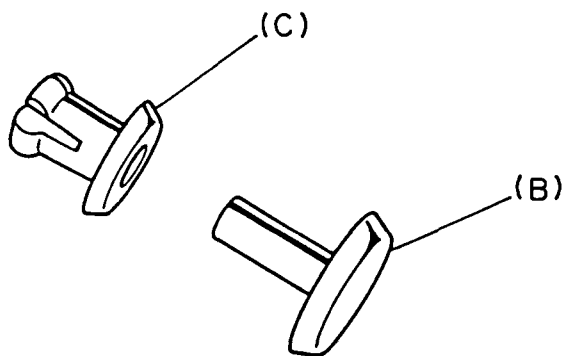

Figure 4-8 Fastener
2. The EL panel is held in place by two fasteners (A). Each fastener consists of a pin (B) and a collar (C) as shown in figure 4-8. Push up the tip of a pin, then using tweezers, pull out each pin from above.